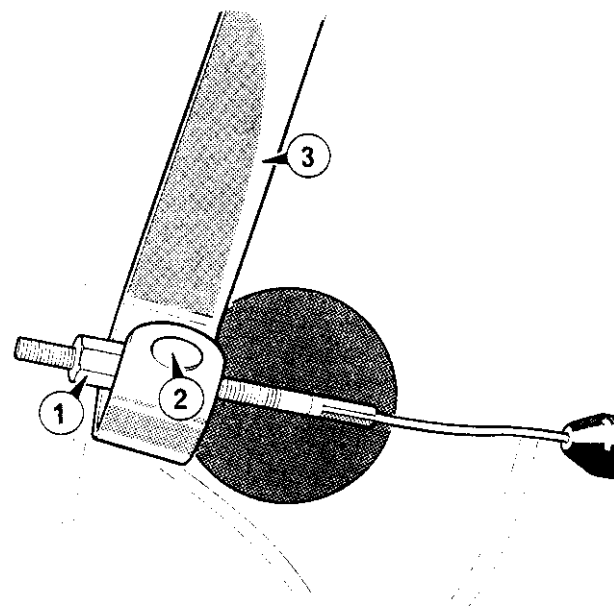

Figure 1 Clutch adjuster
1. Pull back on the clutch cable inner, releasing the adjuster nut on the threaded portion of the cable from the trunnion located in the clutch operating arm. (**Figure 1**)